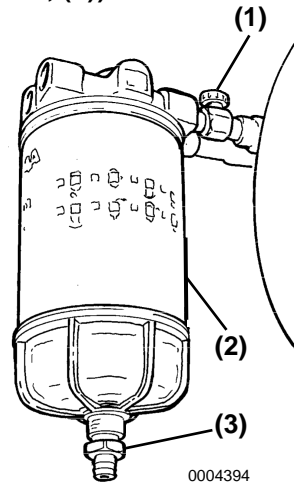

Figure 2
1. Make sure the fuel tank cock (Figure 2, (1)) is closed.
- Loosen the drain plug (**Figure 2, (3)**) at the bottom of the fuel filter / water separator and drain off any water or dirt. **WARNING! ALWAYS wear eye protection. The fuel system is under pressure and fuel could spray out when any fuel system components are removed.**
- Turn the filter container (**Figure 2, (2)**) counterclockwise to remove. **NOTICE: Put an approved container under the opening when removing any fuel system component to perform maintenance (such as changing the fuel filter). Dispose of waste properly.**
- Open the fuel tank cock (**Figure 2, (1)**).